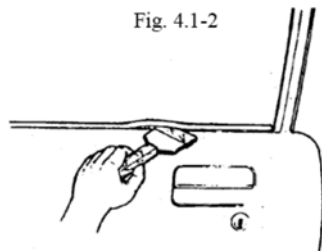

Fig. 4.1-3
- 6) Front door inner weather strip. The method is to wind down front door glass completely, then use a screwdriver wrapped with tape to pry inner and outer weather strips open, see Fig. 4.1-3.